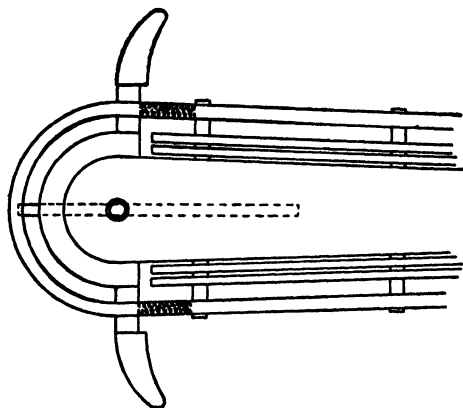

FIG. 187.
*May 6.* The germ of the Sno-Plane was put on paper. After the first tentative sketches, the idea unfolded rapidly: make a sled *steer like a velocipede* by means of a separate center runner; the side runners were to be fixed, but break from contact with the ground *farther to the rear* than the conventional sled. Then we would mount this separate center runner, shaped like a skate, to the under side of a turntable, and fix the turntable to the under side of the centerboard by means of a king bolt. A steering cross-bar of strap steel, with molded rubber grips, was to pass through slots in the tubular front end, with concealed coiled springs to return the center runner automatically to the straight forward position, as in Fig. 187.